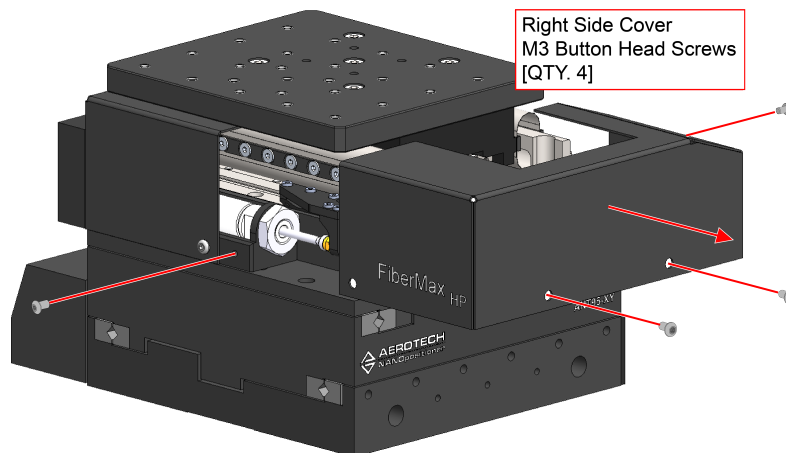

Figure 2-18: Cover Removal
2. Remove the right side cover by removing [QTY. 4] M3 button head screws (refer to Figure 2-18).